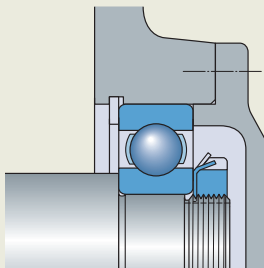
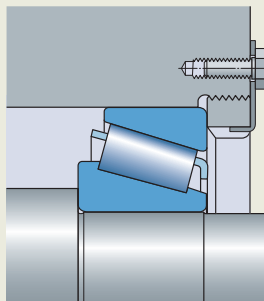

Fig. 13
Fig. 14
- end plates or housing covers (fig. 13 and fig. 14)